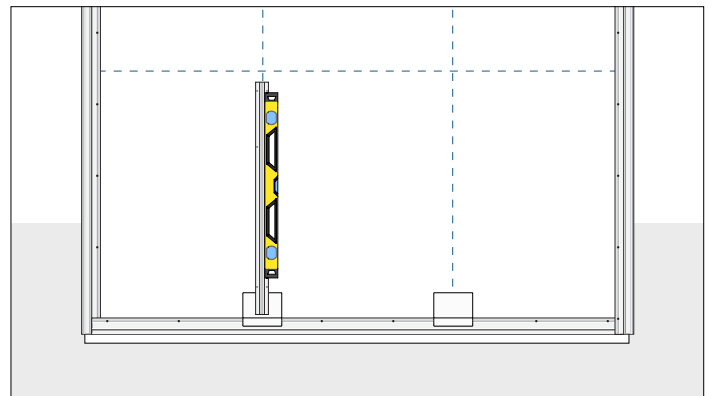

Figure 14.4
7. Plumb & fasten all the midfield vertical back plates along the same course. (Figure 14.4) (see **Fastening Info**).